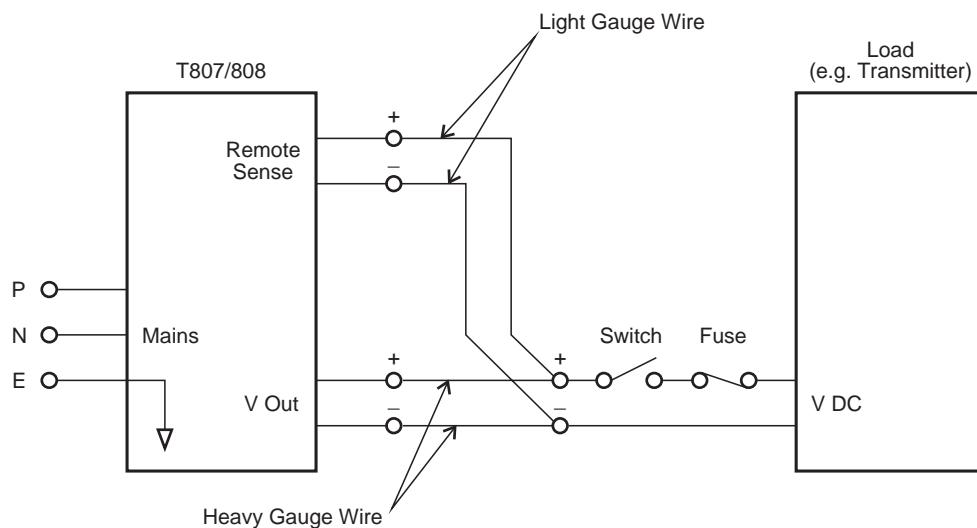

Figure 7.3 Output Voltage Remote Sensing With Fuse And/Or Switch
- Note 4:** When a fuse and/or switch is fitted in the output wiring between the power supply and the load, it is essential that the remote sensing is connected to the **power supply side** of the switch or fuse, as shown in Figure 7.3.